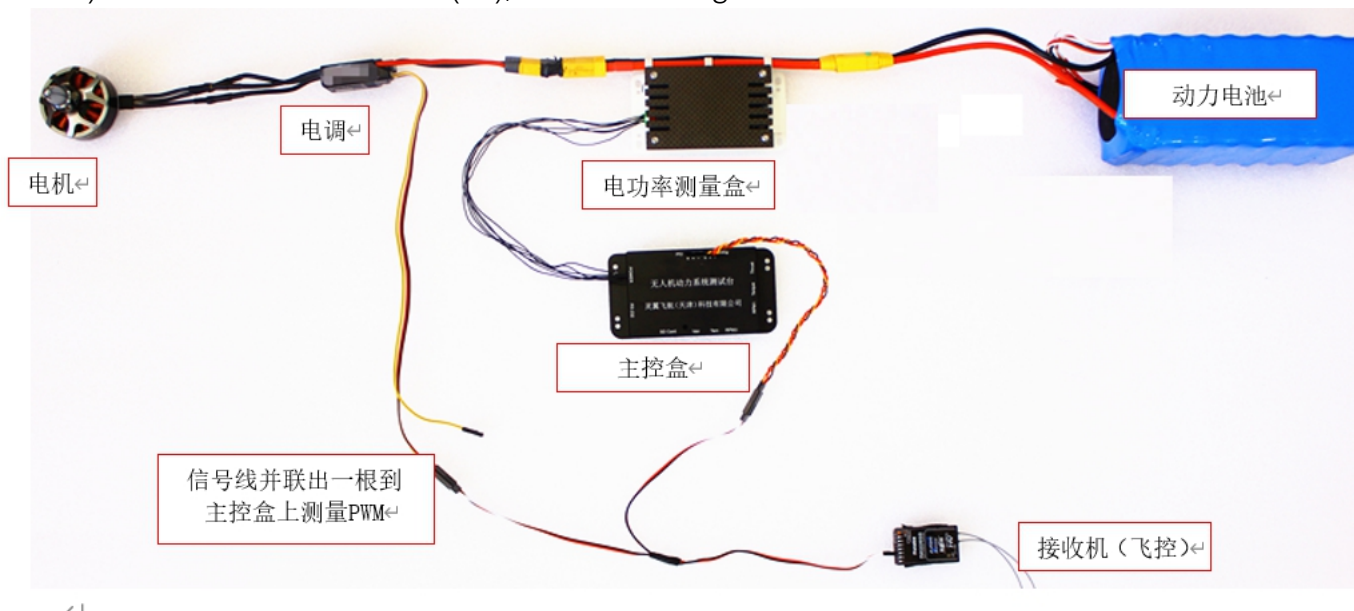

Fig.2.3 ESC connects with Power supply
Battery connects with the power module in parallel. ESC signal cables and control module (read interface) connect with the receiver (FC), as shown in Fig.2.3.